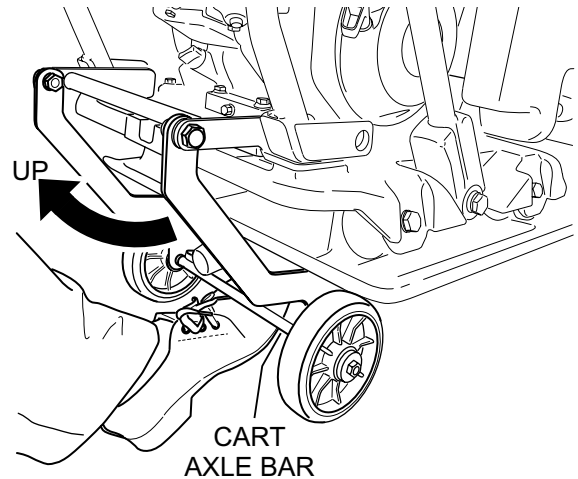

Figure 15. Raising Axle Bar (Foot)
3. Once the wheels have been positioned away from the rear of the compactor, place your foot (Figure 15) underneath the cart axle bar so that the cart can be raised.